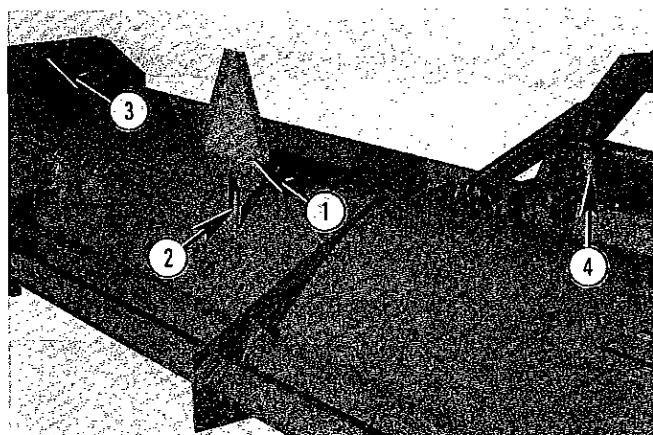

FIGURE 110
**IMPORTANT: AFTER TRACTOR HOOKUP, ALWAYS STORE HITCH JACK ON PEDESTAL AT TOP OF GEARCASE. (REF. (4), FIGURE 110, PAGE 54.)**